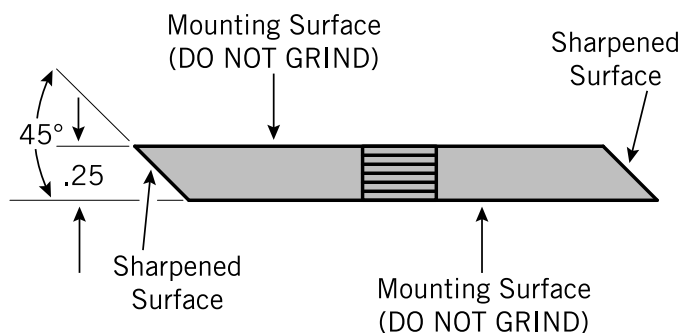
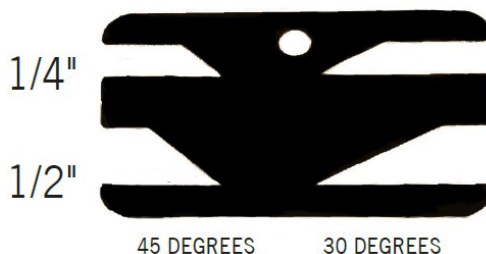

Figure 5.5, Blade Surfaces
Figure 5.5.2, Blade Angle Gauge Plate
2. Regrind the angled edge of the blades to 45 degrees (Figure 5.5). Use the blade angle gauge plate when sharpening the blades to achieve the proper angle (see Figure 5.5.2).